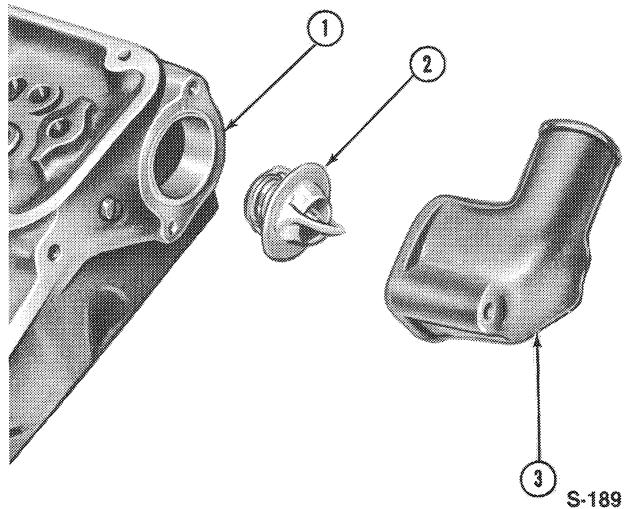
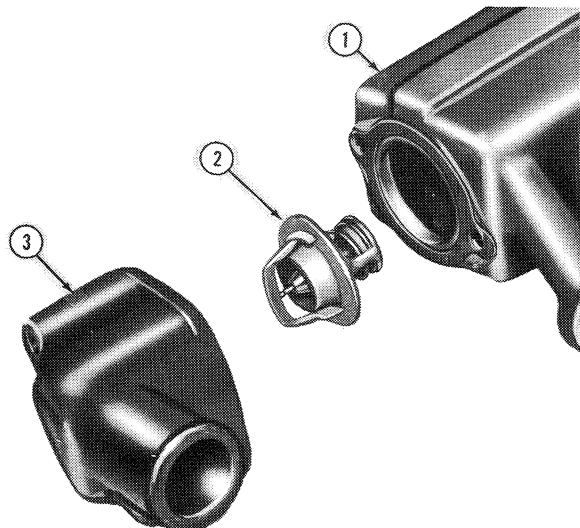

Figure 7
Figure 8
1. Remove the coolant outlet connection and the thermostat and gasket, from the diesel cylinder head, Figure 7, or the gasoline engine intake manifold, Figure 8.